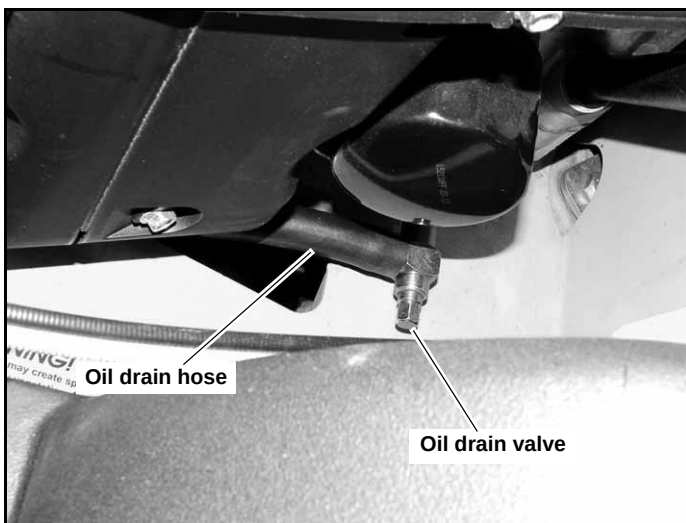

Figure 5-3
B. Draining the engine oil (units equipped with oil drain valve as shown in Figure 5-3):
1. Locate the oil drain valve on the engine. Figure 5-3